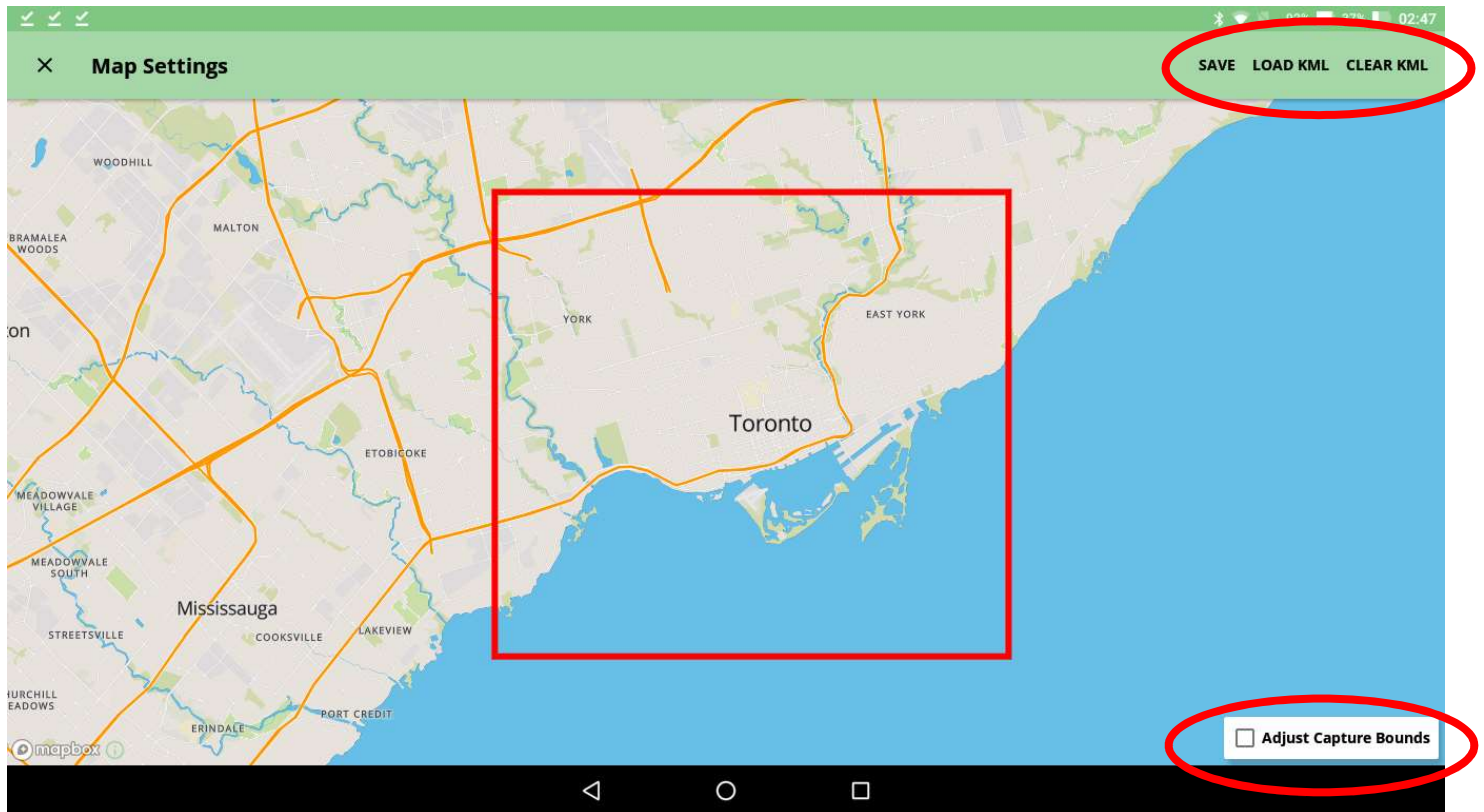

Figure 17 - Map Selection Screen
- Select the “Adjust Capture Bounds” box and use pinch-zoom and drag to move and shape the red box to fit your survey area. (see Figure 17)